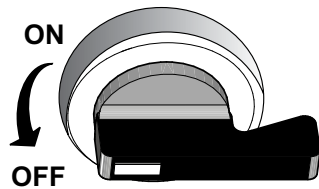

Figure 16. Brake Knob (Off Position)
- With the engine running, place the parking brake knob (Figure 16) in the **OFF** position.